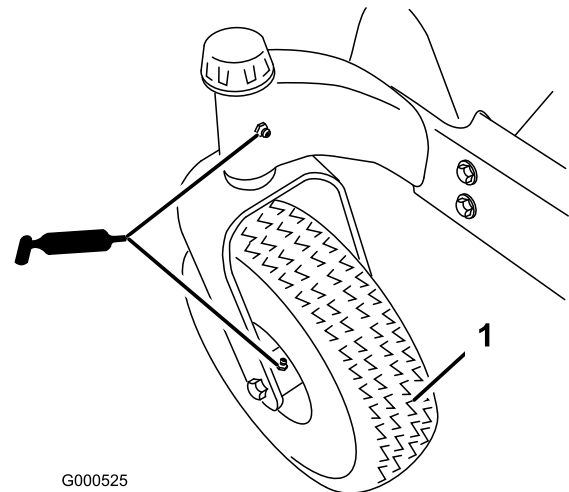
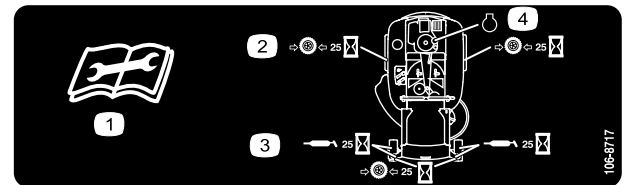

Figure 19
Figure 20
Grease the front caster pivots and wheels (Figure 19).
- Clean the grease fittings (Figure 19 and Figure 20) with a rag. Make sure to scrape any paint off of the front of the fitting(s).
- Connect a grease gun to each fitting (Figure 19 and Figure 20). Pump grease into the fittings until grease begins to ooze out of the bearings.